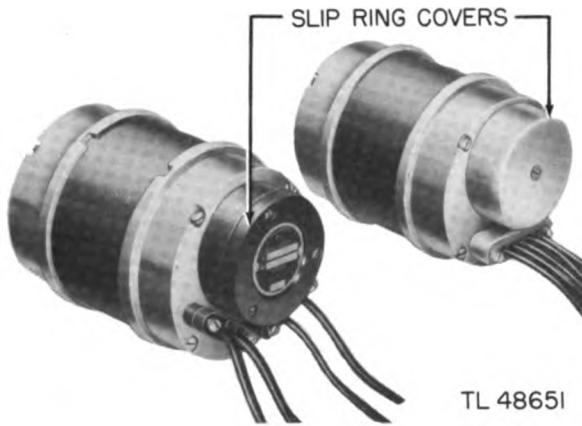

Figure 2-13. Selsyns.
a. General. Seven selsyns are used in Radar Set AN/MPG-1. Three selsyns are located in the pedestal, two in the tracking unit, and one each in the PPI mount and the slew-scan unit. The selsyns (fig. 2-13) used in this set are supplied by two different manufacturers so that they differ slightly in physical appearance. However, the same maintenance operations apply to both types.